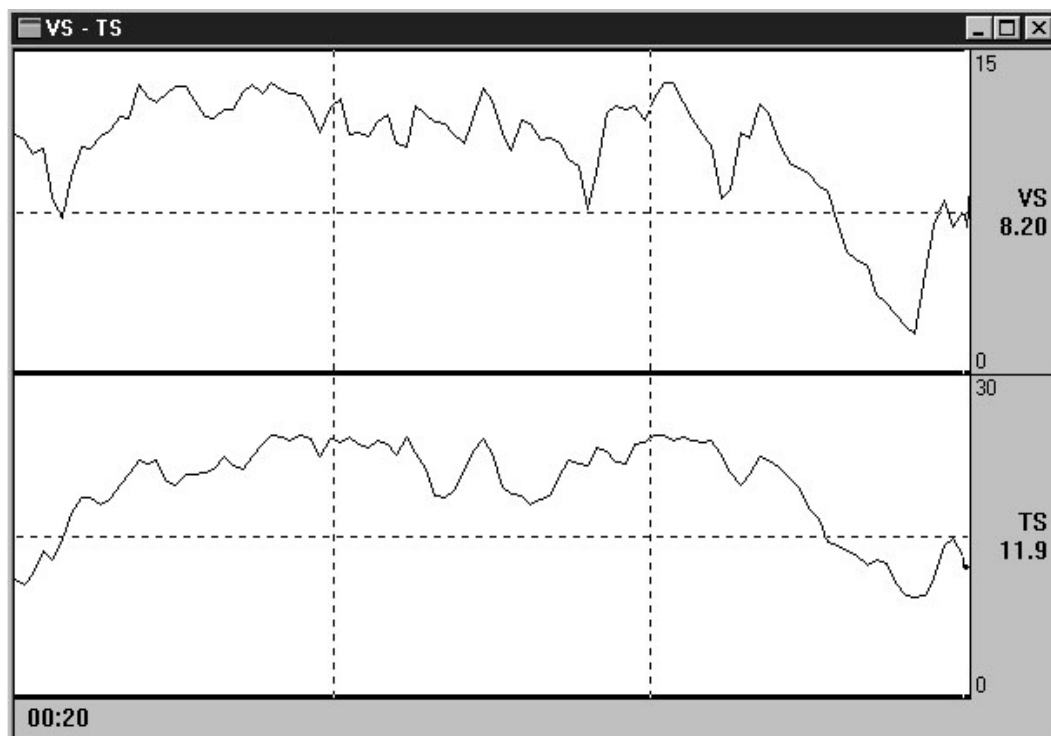

Figure 5.1
Selecting **new time plot** from the **data** menu will display a window which allows you to view any of the stored data as a time series plot. Clicking on a variable in the left hand window sends it to **Selected variables**. Clicking on the right window deselects. When you have selected all the variables you wish to plot, choose OK to draw the graph. Figure 5.1 shows an example *plotting* boat speed (VS) and true wind speed (TS).